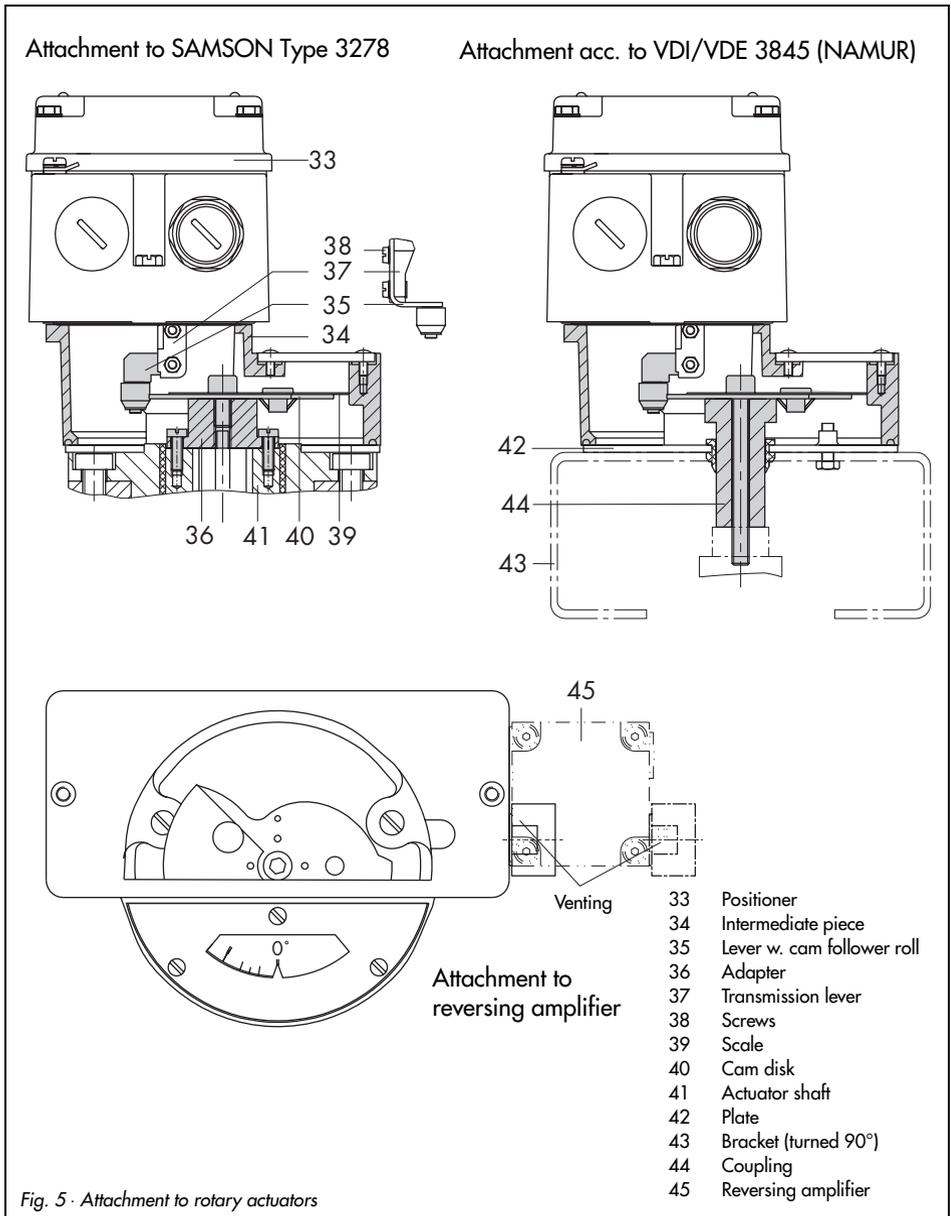

Fig. 5 - Attachment to rotary actuators
1. Adjust the shaft (25) in the adapter housing so that the black pointer (24) is aligned with the casted marking on the adapter housing.
2. Screw tight clamping plate (22) in this position, using a screw (23).
3. Screw in the pin (27) at the positioner lever (26) and secure it with a hex nut on the opposite side. Note the mounting position **A** or **B** respectively according to Table 5 and Fig. 5.
4. Put the positioner to the adapter housing such that the pin (27) will lie properly within the arms of the bracket (28).